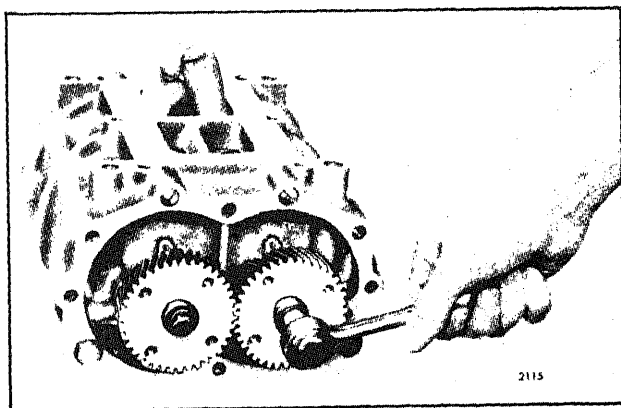

Fig. 13 · Installing Blower Rotor Gears
10. Wedge a clean cloth between the blower rotors. Use the gear retaining bolts and plain washers to secure the gears on the rotor shafts (Fig. 13). Turn the bolts uniformly until the gears are tight against the shoulders on the shafts.